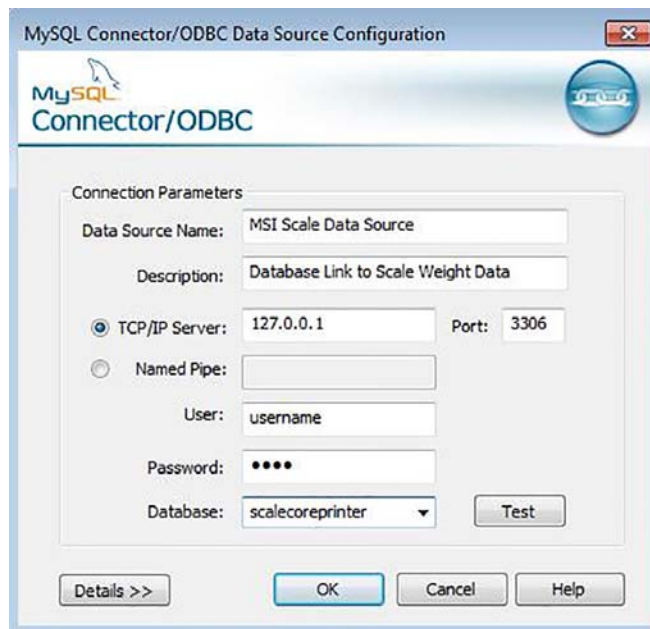

Figure 5-4. MySQL Connector/ODBC
5. Enter the connection parameters in the next dialog for the MySQL database server (see Figure 5-4).